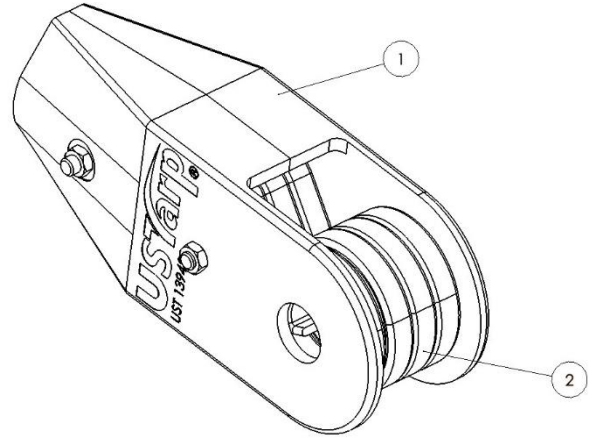

Figure 3.5
Place a stainless steel bushing onto the pivot pin. Insert the torsion springs (2) into the pivot casting (1) such that the long leg of each torsion spring is above the pin on the pivot casting as shown in Figure 3.5.